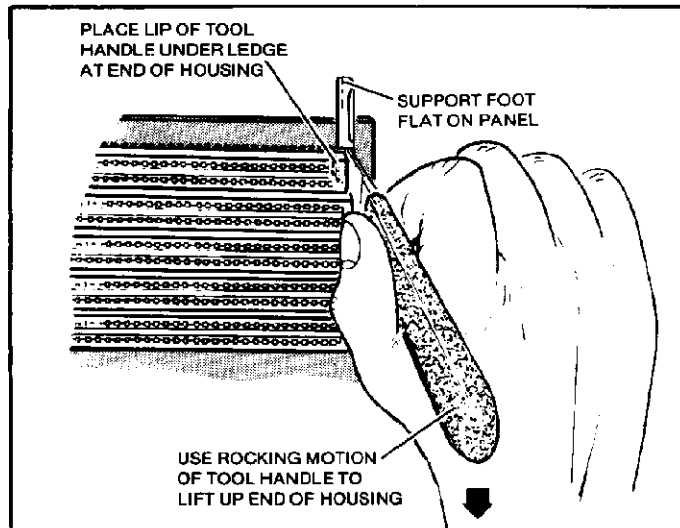

Figure 2
- (a) Place support foot flat on panel and lip of tool handle under ledge at end of connector housing. See Figure 2.